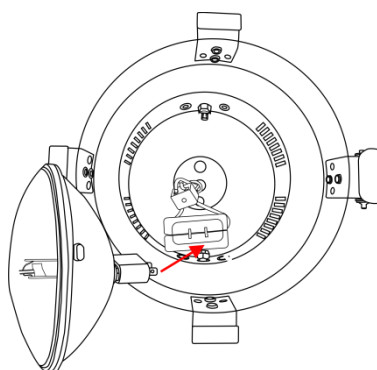

Fig. 05
- 04) Pull out the lamp holder and insert the lamp (Fig.05).